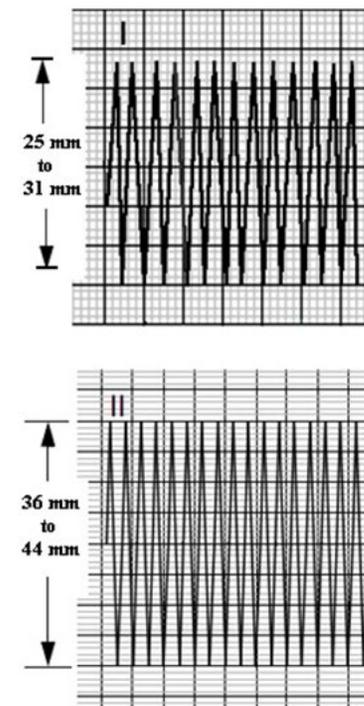

Figure 1.11: ECG Gain at Lead I and Lead II
4. Print five seconds of ECG Lead I and confirm the printed signal amplitude is 25 mm to 31 mm, peak-to-peak as shown in Figure 1.11.
6. Print five seconds of ECG Lead II and confirm the printed signal amplitude is 36 mm to 44 mm, peak-to-peak as shown in Figure 1.11.